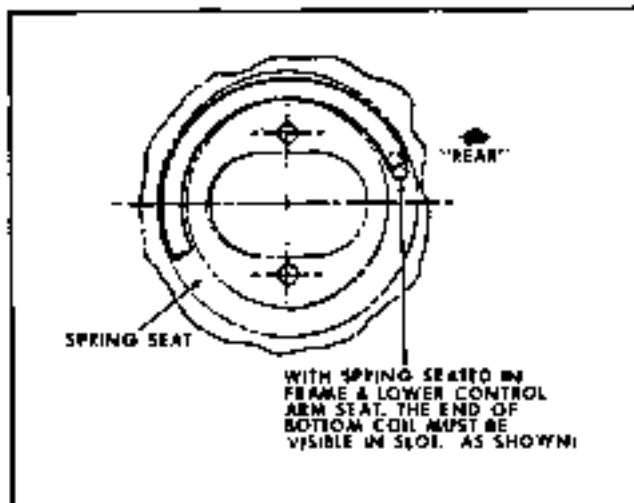

Fig. 3-11 Coil Spring Position In Lower Control Arm Spring Seat - Except Firebird
1. Install by reversing the above steps. Take care to ensure that spring is properly installed as shown in Fig. 3-11 on Pontiac, Tempest and Grand Prix models.